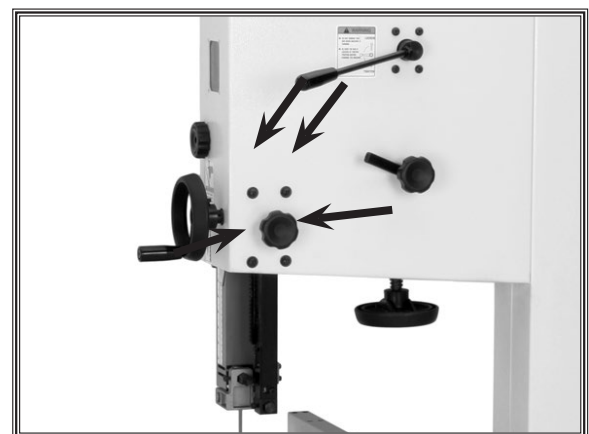
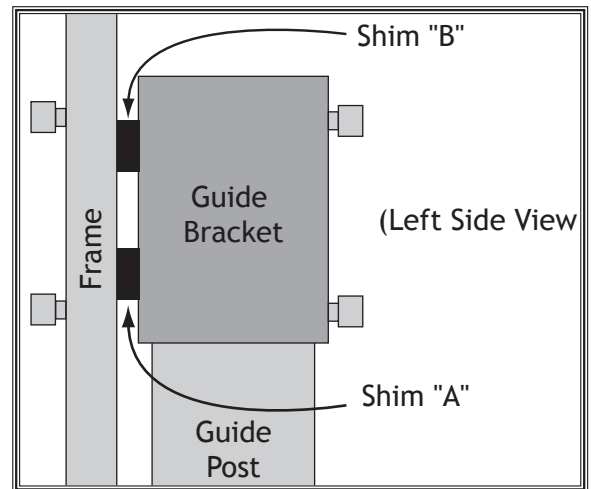

Figure 55. Guide post adjustment screws.
Figure 57. Location for placing shims.
7. Loosen each of the four screws shown in **Figure 55** 1/4 turn.
9. Tighten the screws shown in **Figure 55**.
7. Loosen the four screws shown in **Figure 55** enough to fit metal shims between the frame and the guide post bracket (see **Figure 57**).
8. Tighten the four screws shown in **Figure 55**, then repeat **Steps 4-5**.